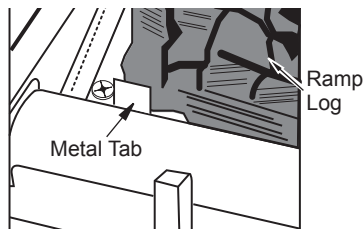
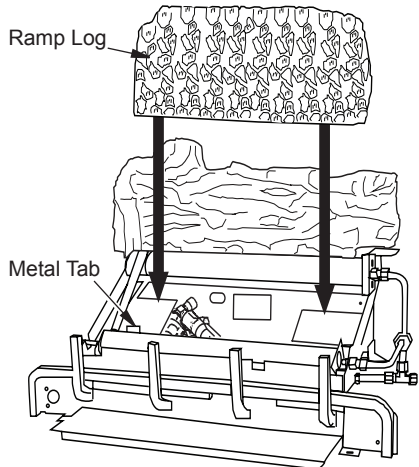

Figure 34 - Installing Log Set
Figure 39 - Installing Ramp Log
2. The log must sit flat on the black sheet metal and behind the left metal tab as shown in Figure 34.
- Place ramp log in center of base assembly as shown in Figure 39. Make sure the side marked BOTTOM is setting down on the base. The log will sit behind the metal base as shown in Figure 34, page 20.